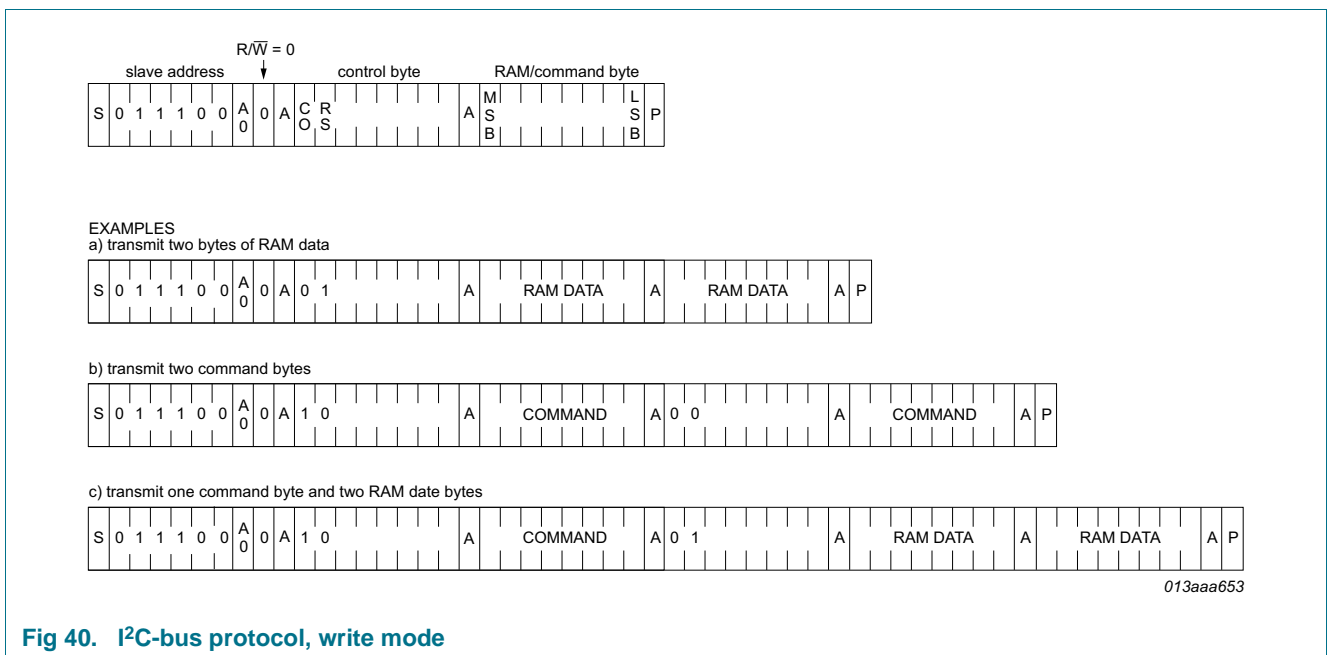

Fig 40. I²C-bus protocol, write mode
The I²C-bus protocol is shown in Figure 40. The sequence is initiated with a START condition (S) from the I²C-bus master which is followed by one of the two PCA8547A slave addresses available. All PCA8547A's with the corresponding A0 level acknowledge in parallel to the slave address, but all PCA8547A with an alternative A0 level ignore the whole I²C-bus transfer.